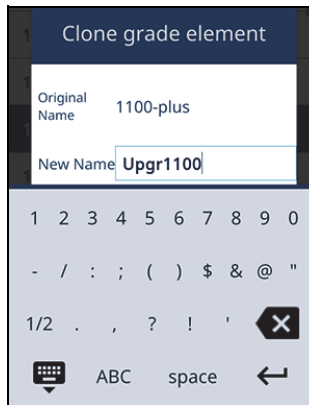

Figure 2-72 Clone Grade dialog box
3. Tap the **Clone** button () to open the **Clone Grade** dialog box (see Figure 2-72 on page 85).